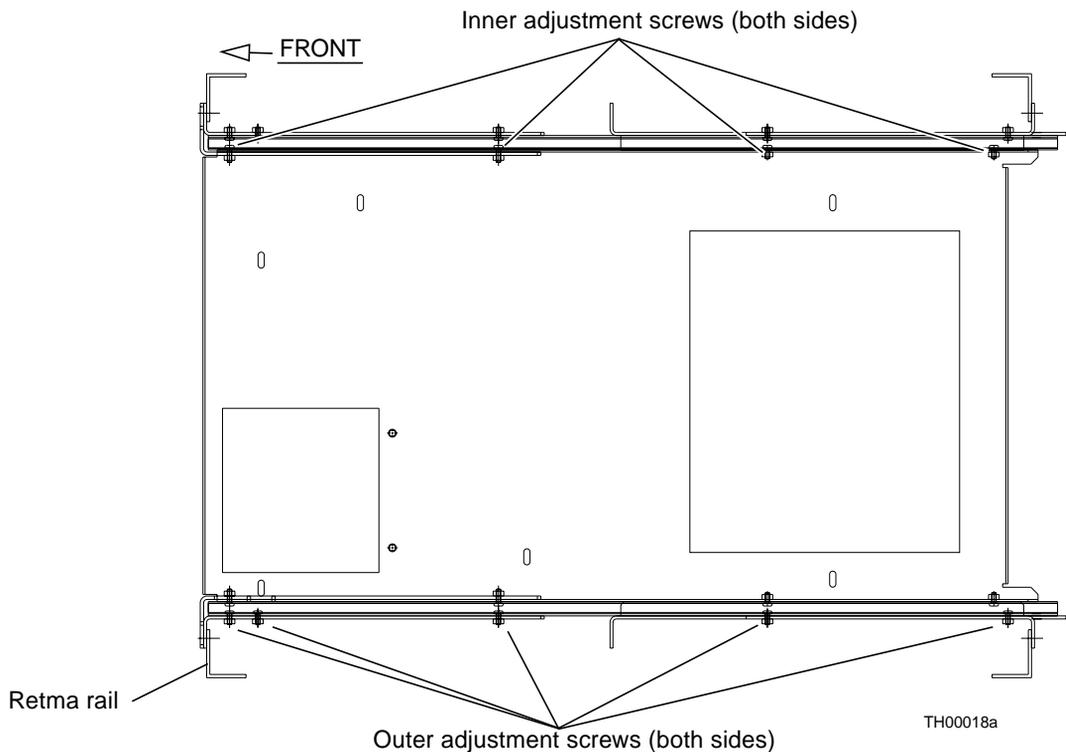

FIGURE 2-8 Slide Assembly—Top View
b. Loosen the 10 outer adjustment screws (FIGURE 2-8).
b. Loosen the eight inner adjustment screws on the sides of the tray (FIGURE 2-8).